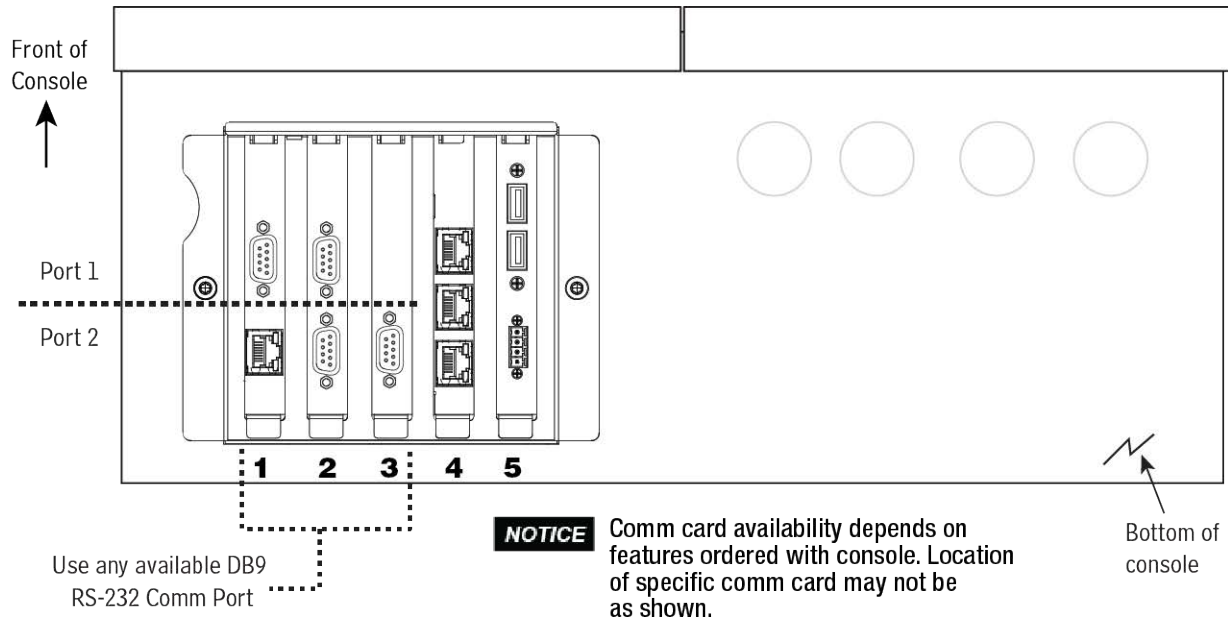

Figure 85. Connect Laptop to an Available RS-232 Comm Port
2. Select an available RS-232 Comm port on the TLS-450PLUS Comm cage (see Figure 85).